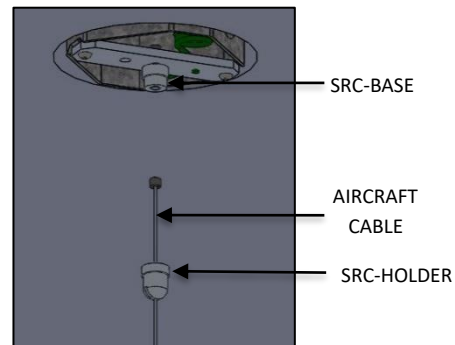

FIG. 15 – AIRCRAFT CABLE INSTALLATION
12. Feed the AIRCRAFT CABLE through the SRC-HOLDER and assemble the SRC-HOLDER to SRC-BASE as shown below in FIG. 15.